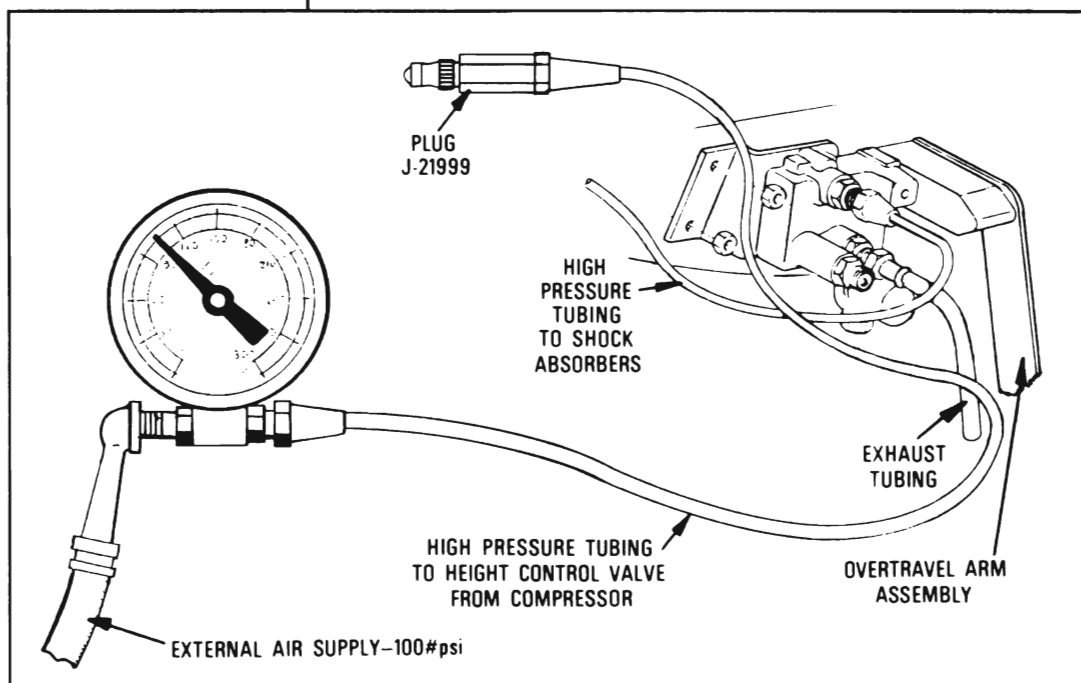

FIGURE 5—CHECKING FOR LEAKS
- A. Remove gauge from high pressure line at compressor end and install plug J-21999 shown in Figure 5. Position it so it will be accessible when vehicle is lifted on hoist.